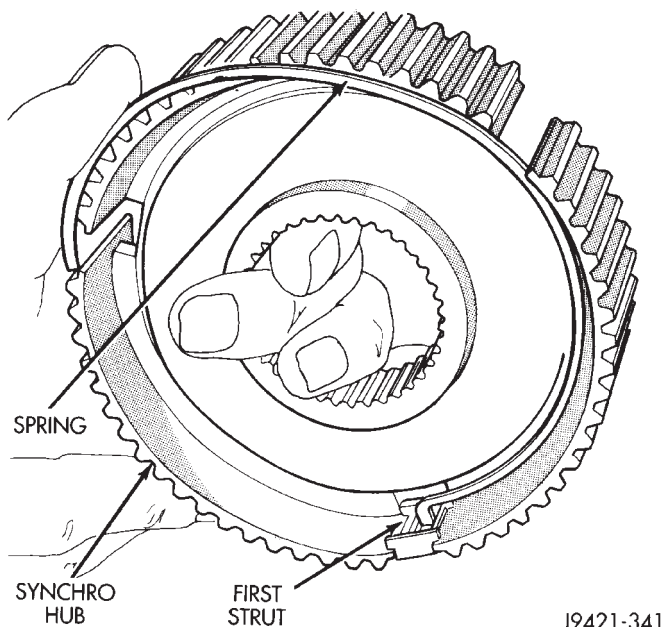

Fig. 71 Installing First Synchro Strut And Spring
- (3) Install 3 synchro struts and 2 springs in hub as follows:
- Insert first strut in hub (Fig. 71). Strut shoulders rest (and slide) on sides hub slot as shown.